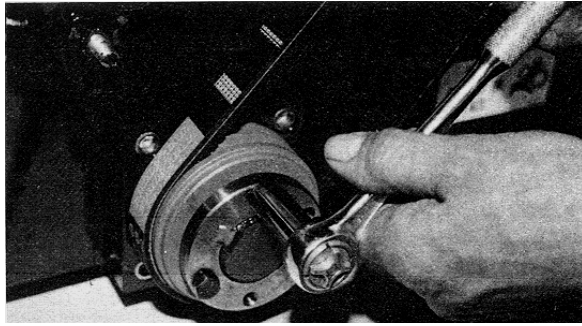

FIGURE 35
c) Insert the 1/4 inch diameter capscrews into the tapped holes in the pulley. Tighten progressively until the bushing applies tension to the pulley. FIGURE 35.